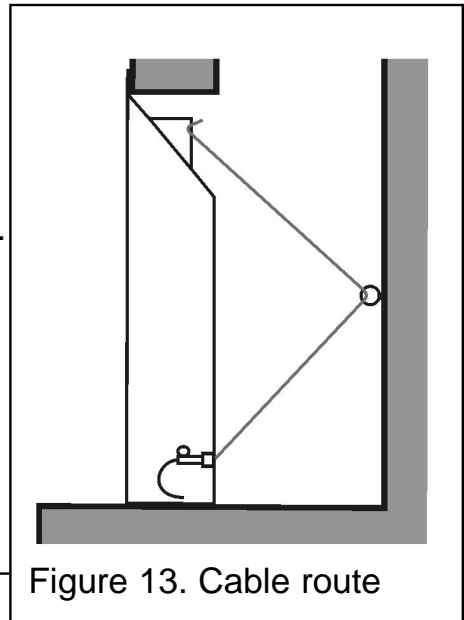

Figure 13. Cable route
6. Thread the cables through the eyebolts. Return the cables through the holes near the bottom of the hotbox side panels (See figure 13).